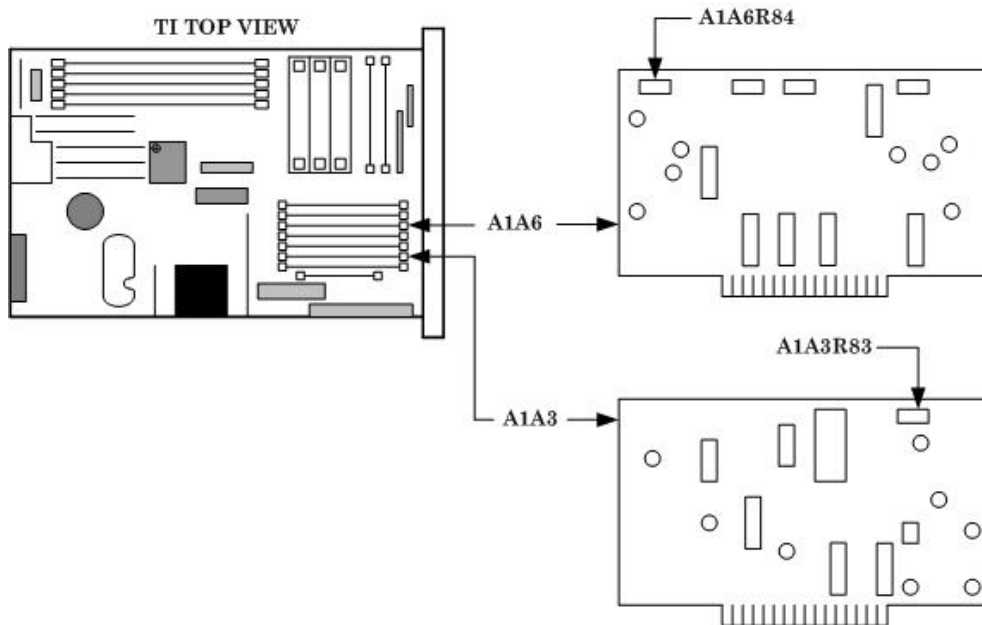

Figure 13. AM adjustment locations.
(2) Press TI keys as listed in (a) through (g) below:
(3) Set the audio analyzer to produce a 1 kHz, 1.06 V output with 600 Ω output impedance, then select special function 17.
(4) Set measuring receiver and local oscillator to measure 16.6 GHz, then select **AM** measurement and **+ PEAK** detector.
(5) Adjust A1A3R83 (fig. 13) for an indication of 73.0% AM on the measuring receiver (R).
(6) Adjust A1A6R84 (fig. 13) until TI meter indicates 75% on middle scale of output meter (R).